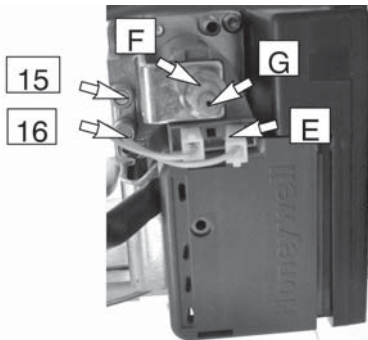

Figure 15.5
- Open the gas valve inlet pressure test point (16 in Fig. 15.5) at the valve input, connect a suitable pressure gauge and check the gas pressure of the supply network.
- Open the gas valve outlet pressure test point (15 in Fig. 15.5) and connect the gauge.
- Rotate the maximum gas pressure adjustment (F in Fig. 15.5) until you obtain the required pressure (by rotating clockwise the pressure increases).
- Turn the boiler off and disconnect one of the two connectors (E in Fig. 15.5).
- Start the boiler and rotate the minimum gas pressure adjustment (G in Fig. 15.5) until you obtain the required pressure (by rotating clockwise the pressure increases).